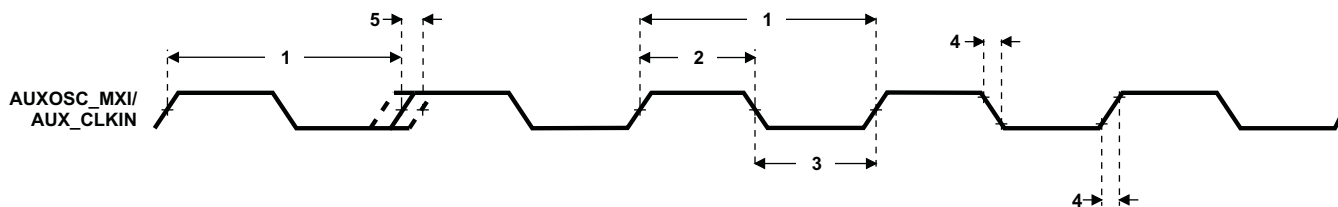

**Figure 7-13. DEV\_MXI/DEV\_CLKIN Timing**
**Table 7-14. Timing Requirements for DEVOSC\_MXI/DEV\_CLKIN(1) (2) (3)(see Figure 7-13)**